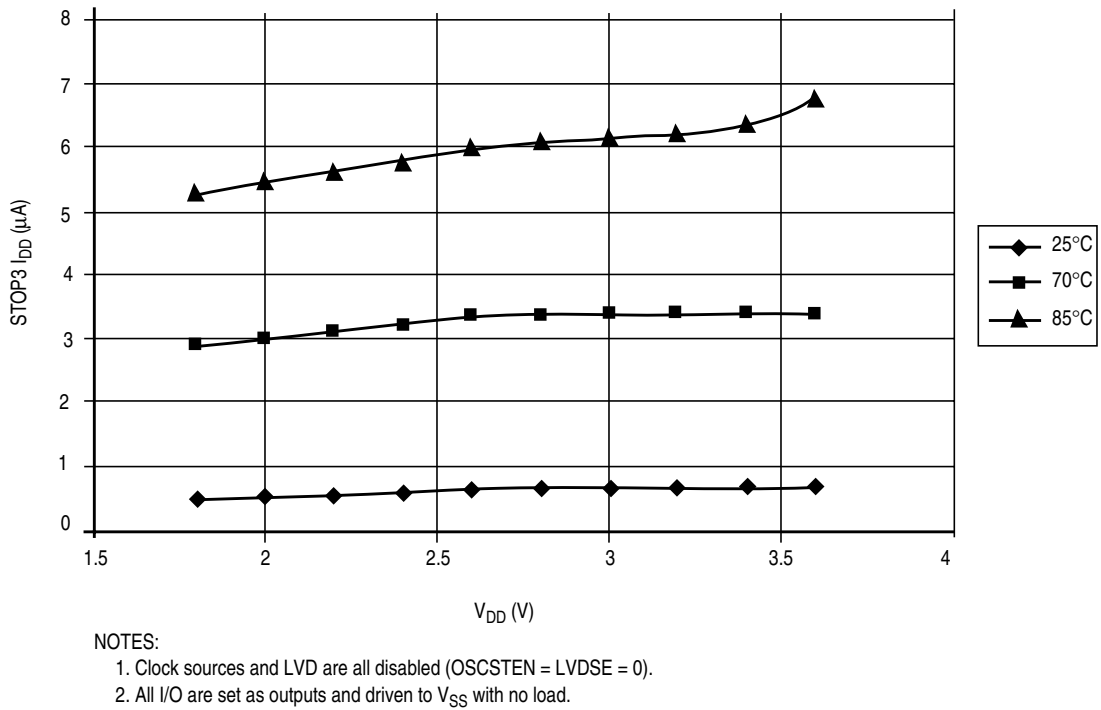

Figure A-9 Typical Stop 3 I_{DD}
- Typicals are measured at 25°C. See Figure A-6 through Figure A-9 for typical curves across voltage/temperature.